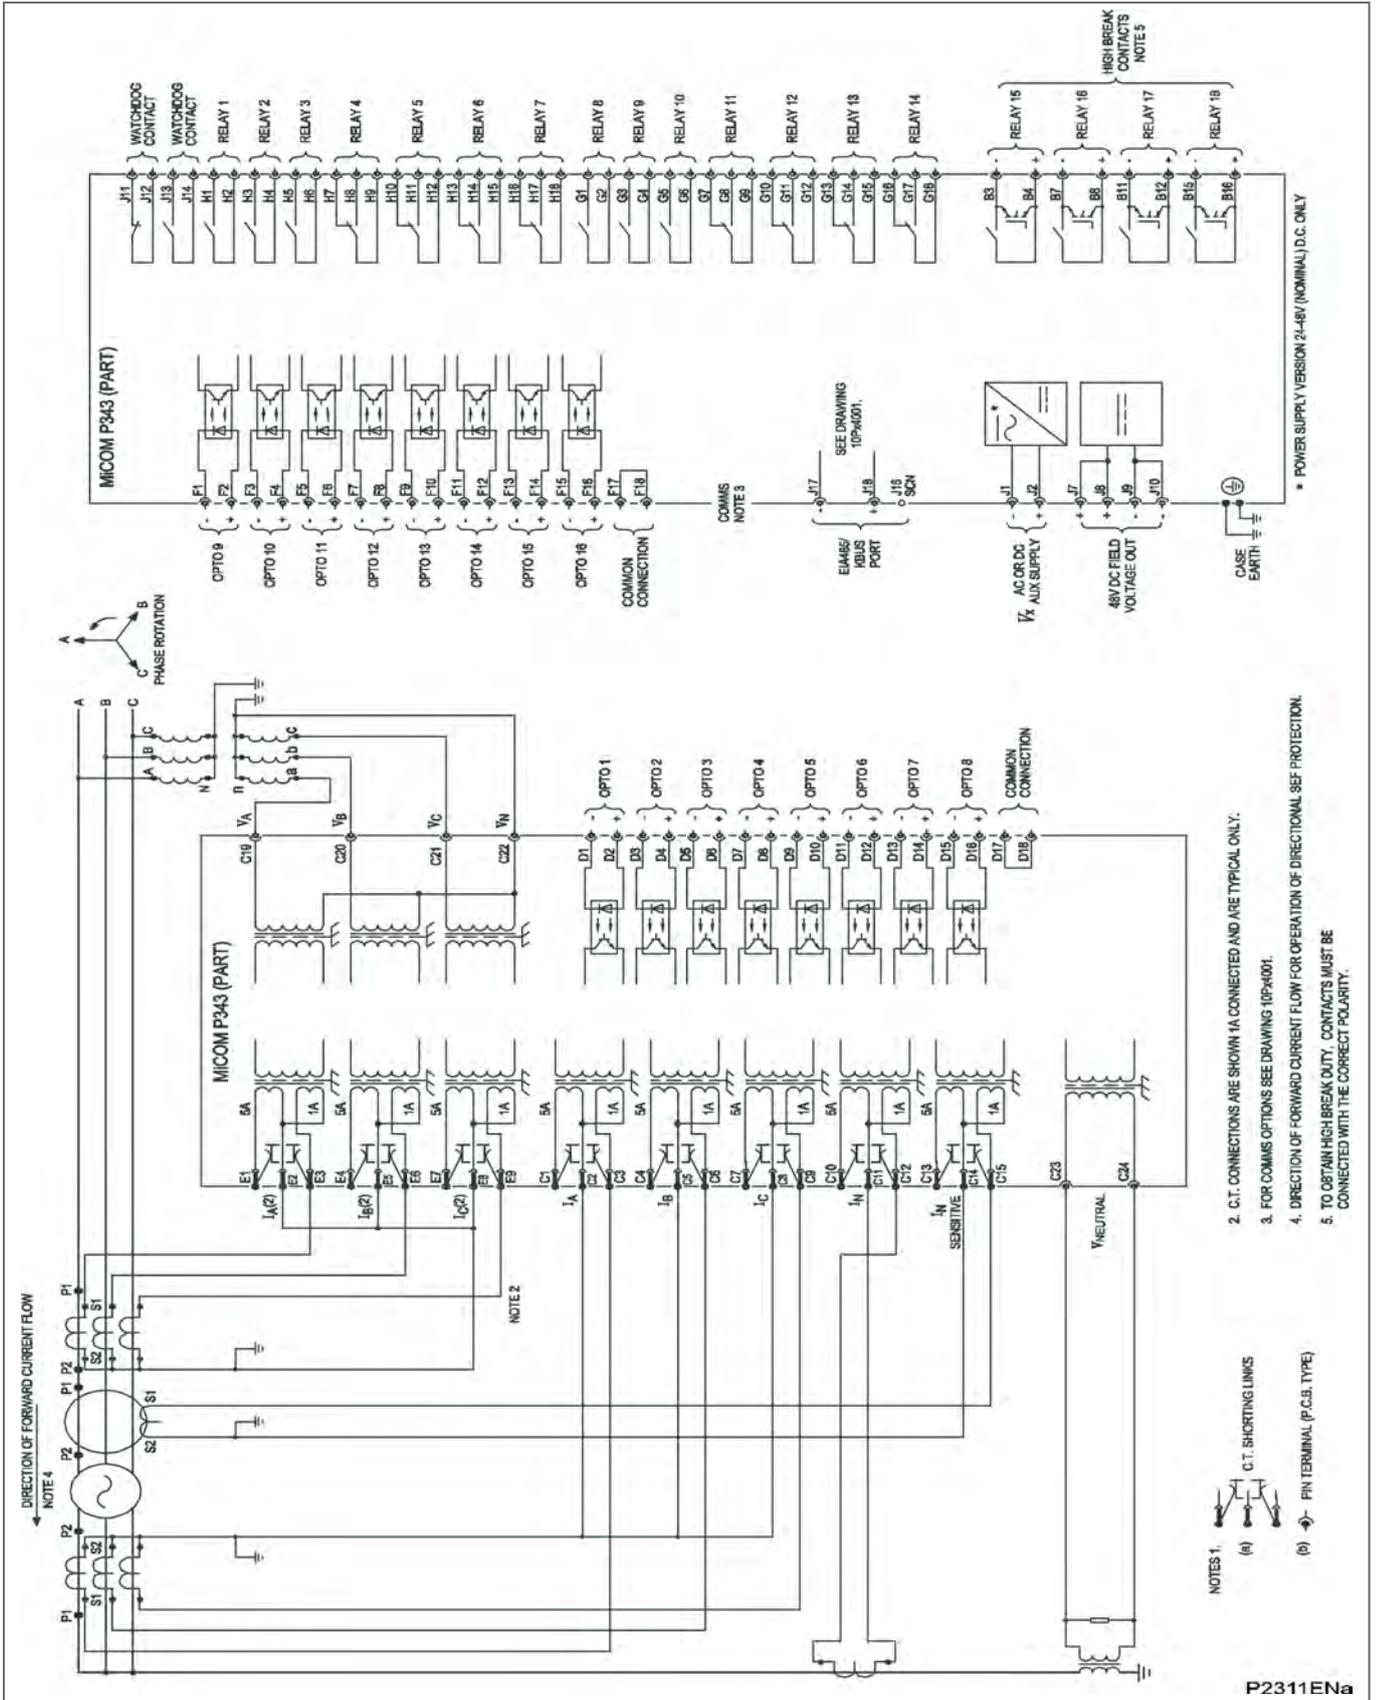

Figure 62 - P343 (60TE) with biased differential (16 I/P & 18 O/P (4HB))
- Figure 62 - P343 (60TE) with biased differential (16 I/P & 18 O/P (4HB))